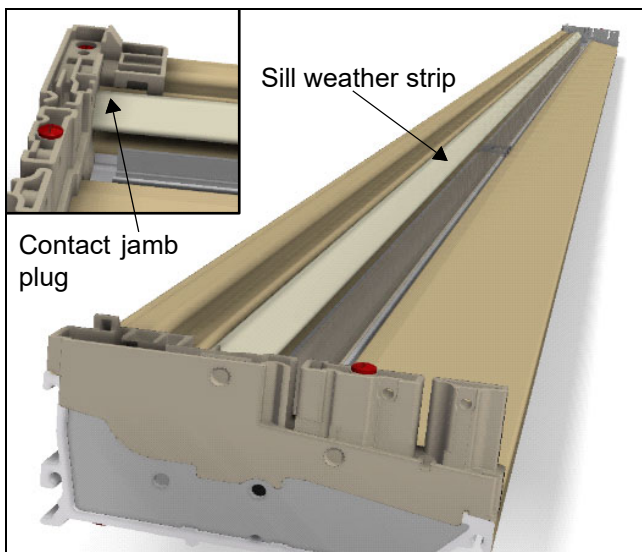

Figure 70
7. Install sill weather strip full length of the spliced sill assembly and cut to fit ensuring weather strip meets both jamb plugs. See Figure 70.